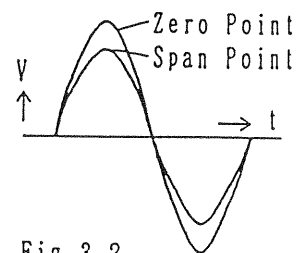

Fig.3.2
Since the Detector is so designed as to produce an expansion difference between the Front and Rear Chambers, a slight gas flow is produced in a Mass-flow Sensor⑥ and this slight flow generates output voltage in the sensor as shown in Fig.3.2.